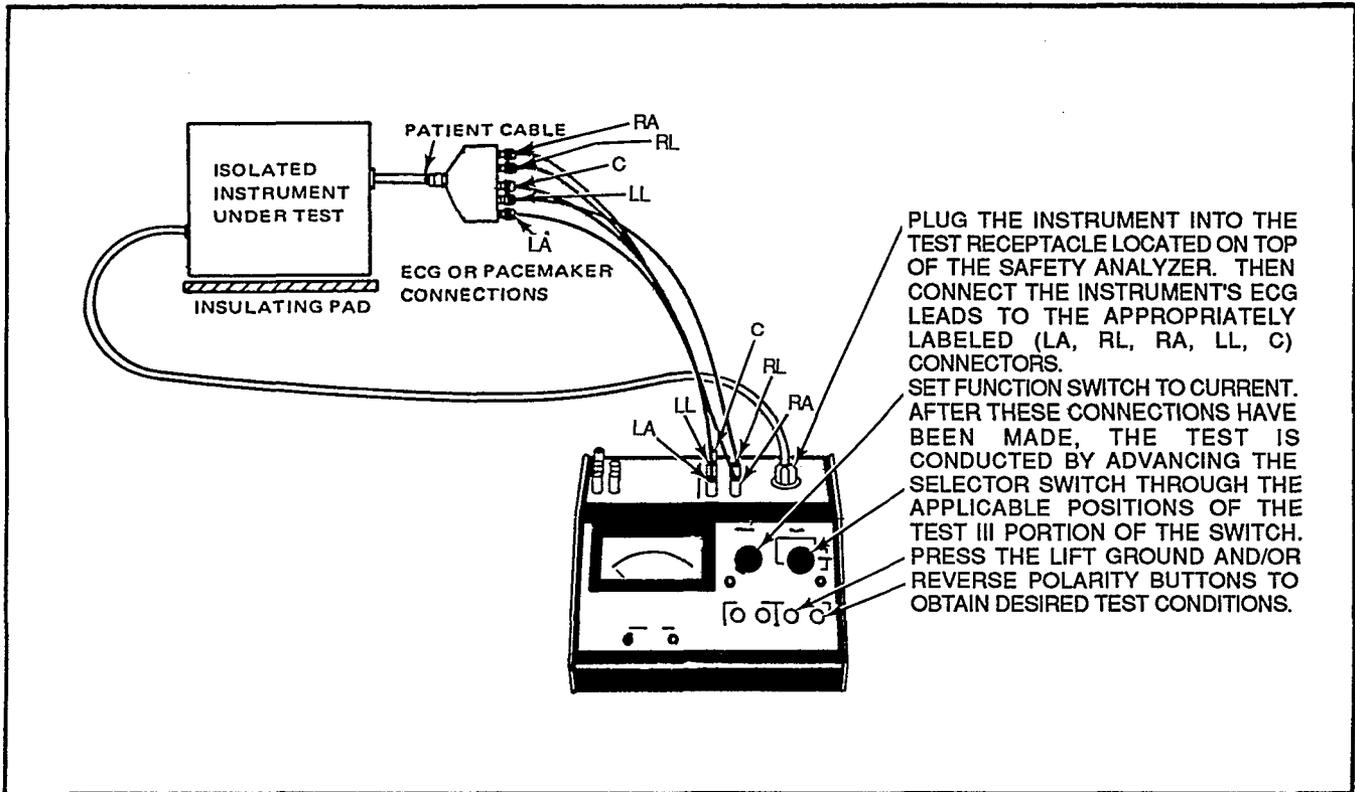

Figure 3-4. Patient Lead Leakage Current (Source Leakage) Test Setup.
1. Connect the test equipment as shown in Figure 3-4.
2. Perform the test as instructed in figure 3-4.